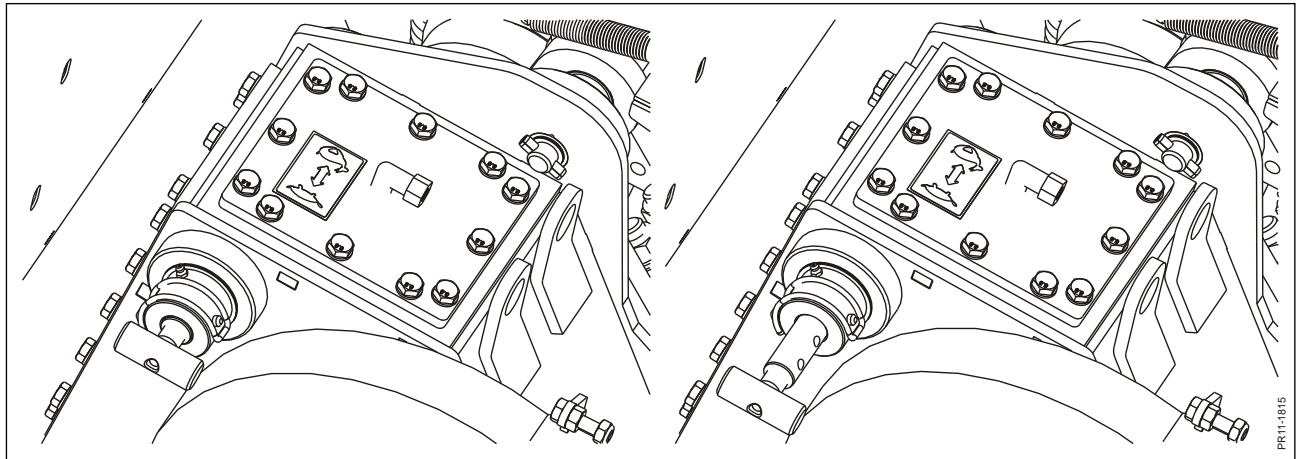

Fig. 4-22 Setting 1
**Fig. 4-22** The cutting length may be altered using the harvesting gearbox, which has two gears. This is done by removing the pin and moving the handle to the desired position. **Insert the pin again.**